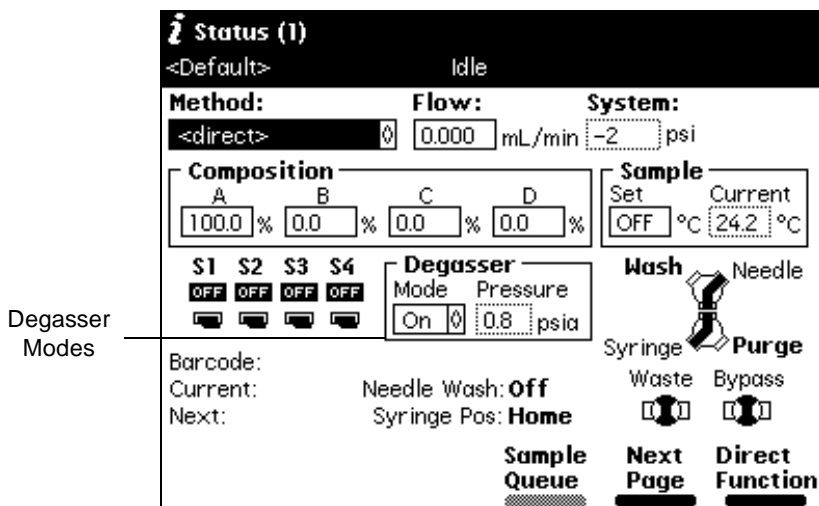

Figure 3-17 Degasser Modes on Main Status Page
1. Press **Menu/Status**. The Status screen is displayed (Figure 3-17).